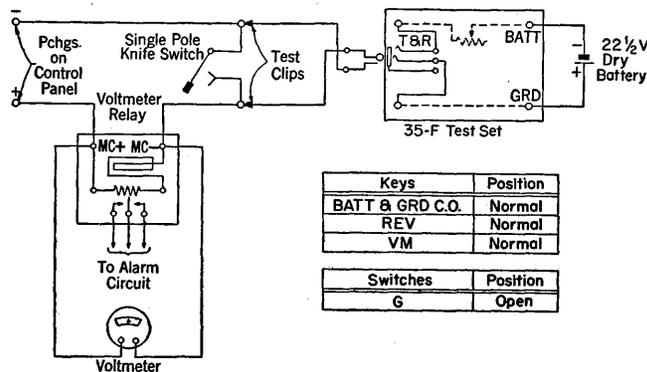

Fig. 1
Note 1: If the PBX is connected to a central office using alarm circuit SD-21482-01, the alarm bell will not ring. If Fig. 1-B of this circuit is used, the central office alarm indication may not change from a major to a minor alarm.
3.59 **High, Low and Floating Alarms:** Connect the No. 35-F test set, voltmeter and dry battery as shown in Fig. 1 to the circuit to be tested. Operate the knife switches associated with the No. 3 telegraph key of the No. 35-F test set to the position marked 0. See that the GRD key is open and that the VM, REV and BATT & GRD CO keys are normal. Place the red resistance slider associated with the No. 3 key in its minimum resistance position (to the left). Place the corresponding black resistance slider in a position where approximately half of the resistance will be removed (half of the distance from left to right). Close the No. 3 telegraph key of the test set.